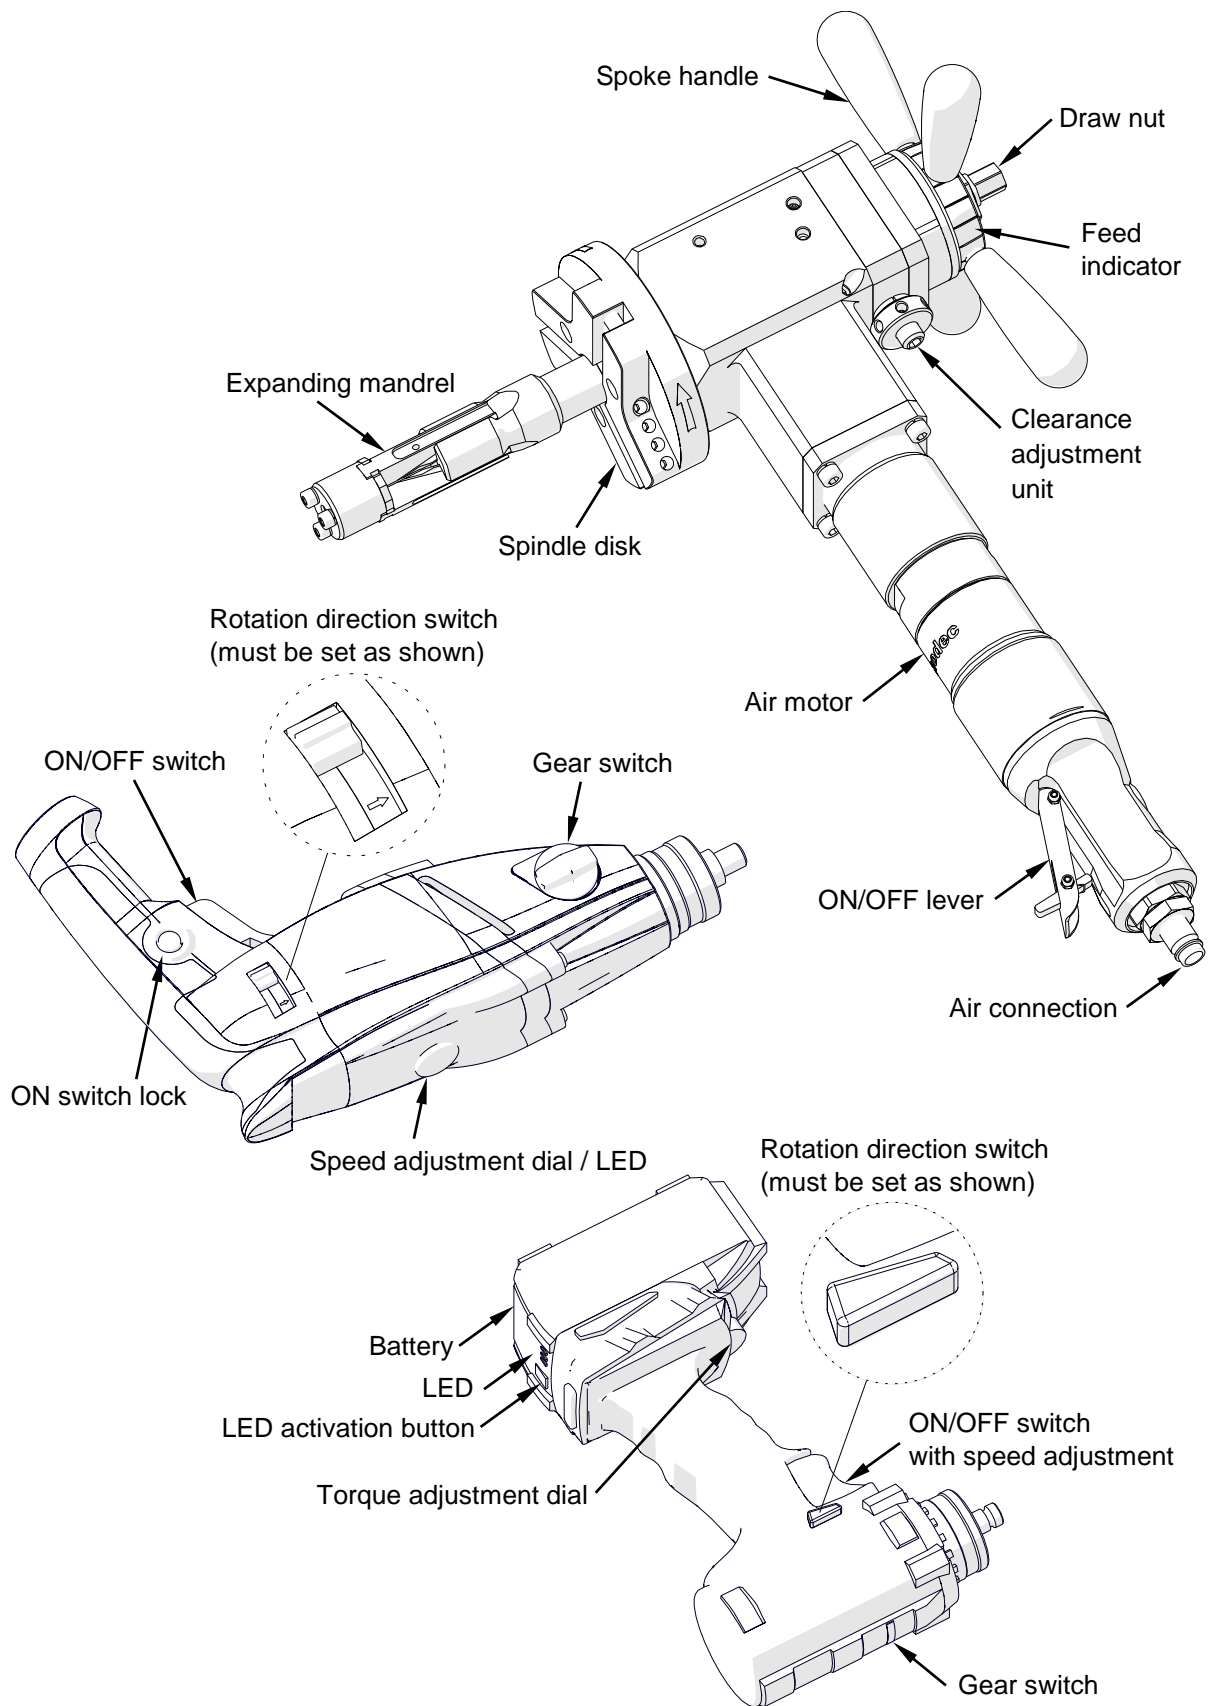

Fig. 1. View of PRO 5 PB and of PBE electric motor and PBC cordless electric motor
20. Operate the machine with an electric motor only when the rotation direction switch is set to the position shown in Fig. 1. Using left rotation (rotation direction switch set to the opposite position) may damage the machine.
To install an electric motor, slide the clamping ring 4 onto the machine. Then, screw the driver (5) into the motor and insert the motor into the machine (6) by placing the arbor in the socket 2, and tighten the clamping ring with the 6 mm hex wrench (7). Finally, set the rotation direction switch to the position shown in Fig. 1.